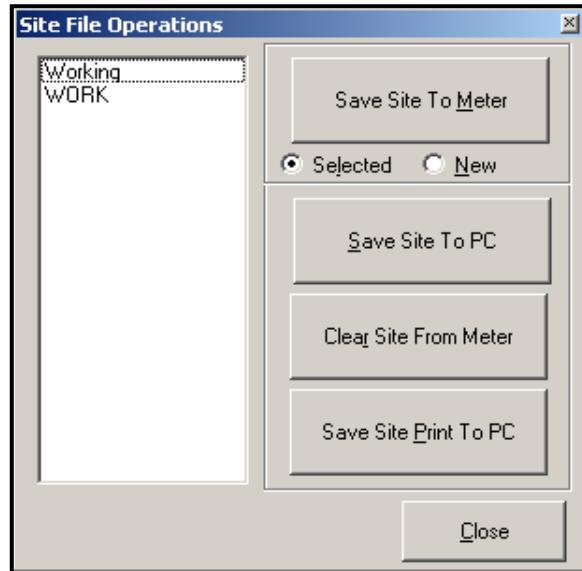

Figure 51: *Site File Operations* Window
- Click on the [Site Files] button. The *Site File Operations* window (shown in Figure 51) opens.
1. Highlight the desired site in the left pane. (See Figure 51 on page 124.)